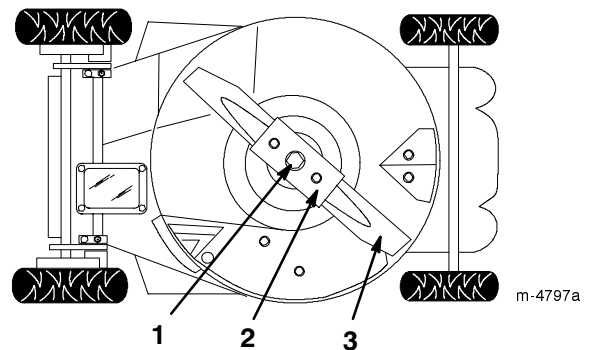

Figure 26
3. Tip the lawn mower onto its **left** side (air filter up) (Fig. 26).
2. Remove the blade bolt, the lock washer, the blade, and the blade stiffener (Fig. 26).